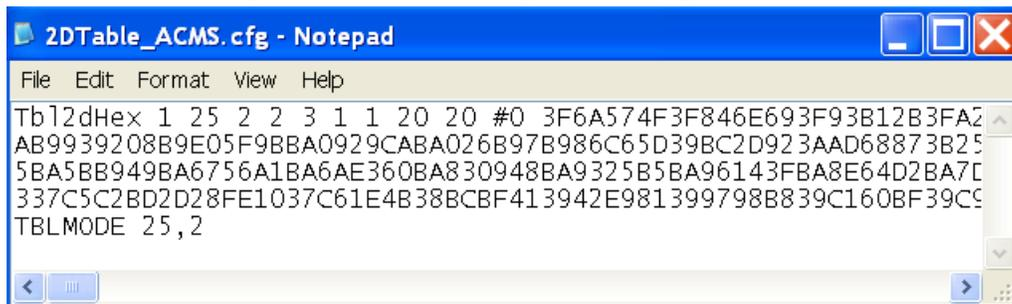

Figure 12: MR calibrated configuration file for the ACMS
1. Open the new MR calibrated *.cfg file located under `\\QdPpms\Tools`. (Figure 12)